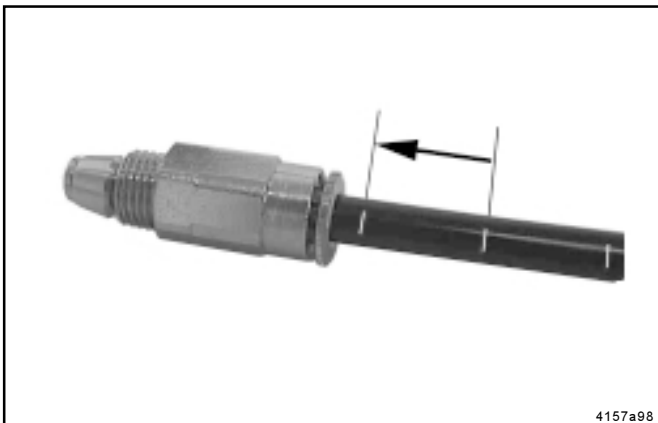

Fig. 20: Check valve with knurled collar and pressure plastic tube
- The pressure plastic tubes are marked with white lines (Fig. 20) as an installation aid.